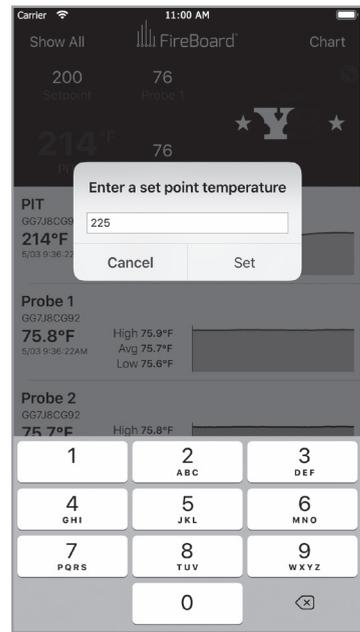

FIG 31
- You can change the pit's setpoint by tapping on the setpoint in the gray banner (FIG 31). Simply enter your new desired setpoint and tap the "Set" button. Please note that changes to the setpoint take a few seconds to take effect. Please be patient for them to be reflected in the cooker and in the app's dashboard.